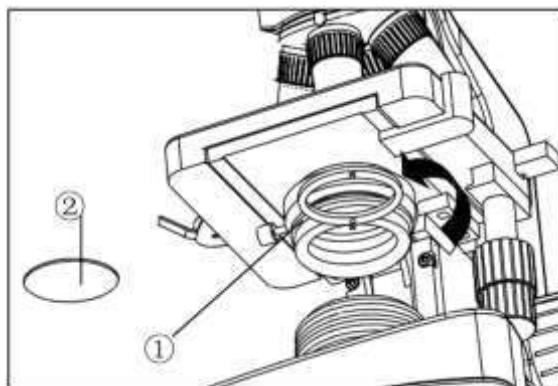

Fig. 7
2.2.4 Install the color filter (Fig.7)
1. Rotating the condenser holder ① out as the Fig.7 shows.
2. Put the filter ② into the condenser holder, then switch back the holder.
2.2.6 Replacing the fuse (Fig.7, 9, 10)